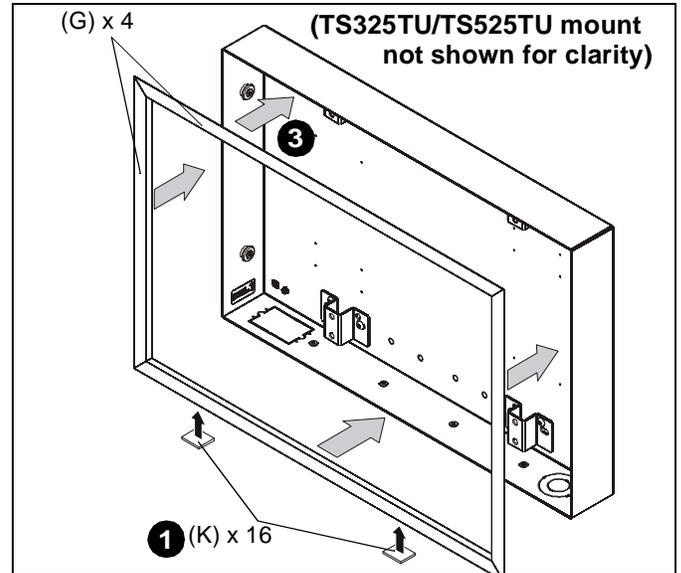

Figure 13
1. Remove paper covering adhesive and affix three tape squares (K) to inside lower flange of each trim piece (G). (See Figure 13)
2. Orient trim pieces (G). (See Figure 13)
3. Remove paper covering adhesive back from tape squares (K) on trim and press trim (G) against inner wall of box. (See Figure 13)